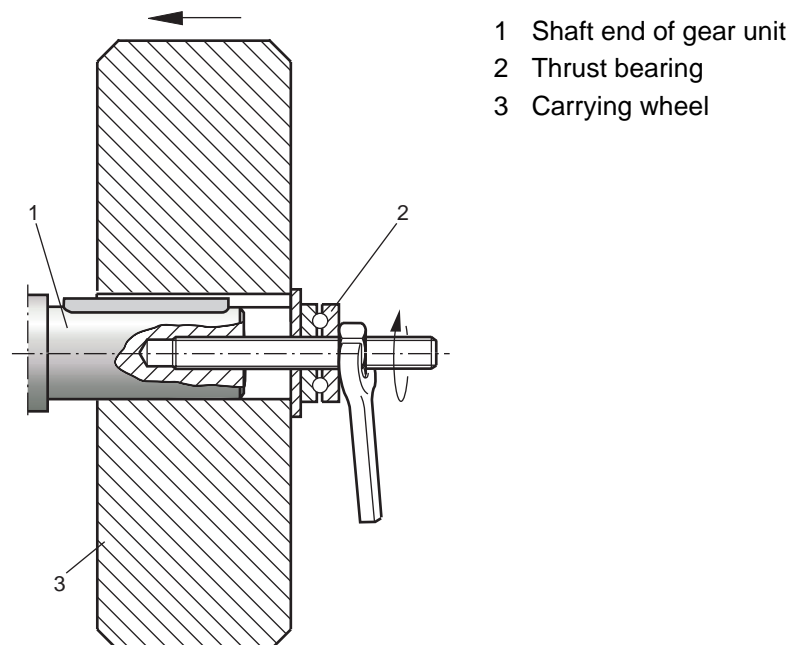

Figure 1: Example of a mounting device for installation of carrying wheels
Figure 1 shows an example of a mounting device for the installation of a carrying wheel onto the gear unit or motor shaft ends. It may be possible to dispense with the thrust bearing on the mounting device.
- Only use a mounting device (see Figure 1) for installing input and output elements. Use the center bore and the thread on the shaft end for positioning purposes.